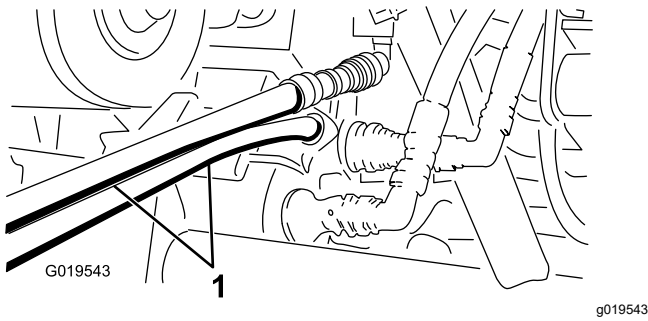

Figure 76
5. On the other machine, connect the 2 hoses to the coupler still in the coupler bracket (connect the top hose to the top coupler and the bottom hose to the bottom coupler) (Figure 76).